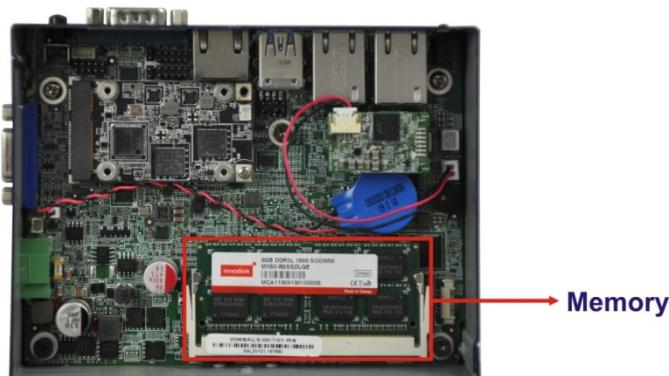

Figure 3-3: SO-DIMM Socket
Step 2: Locate the SO-DIMM socket on the motherboard (**Figure 3-3**).